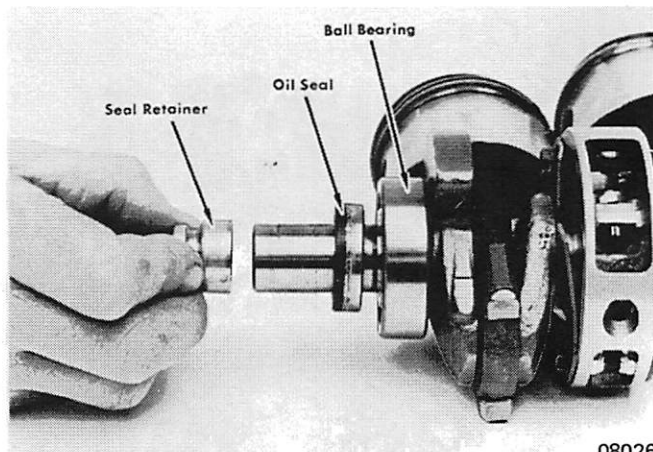

Figure 7. Installing Ball Bearing, Oil Seal and Seal Retainer
17. Install ball bearing, oil seal and seal retainer onto crankshaft end. (Figure 7)